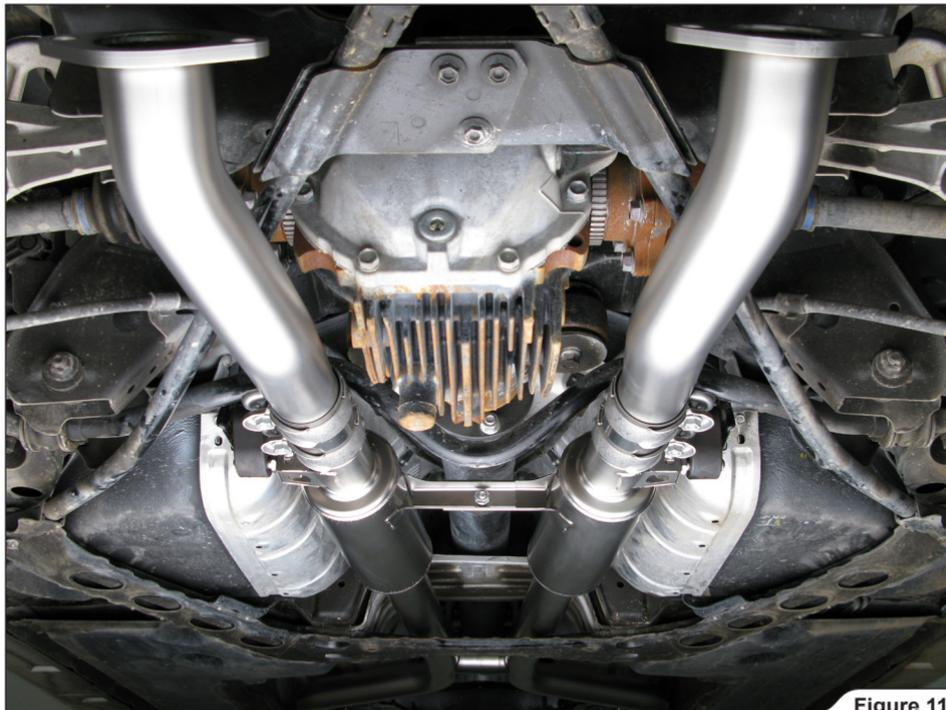

Figure 11
5. **For Evolution only:** attach the middle pipes onto the front pipes, using Akrapovič double clamps - do not fully tighten the clamps yet (**Figure 11**).